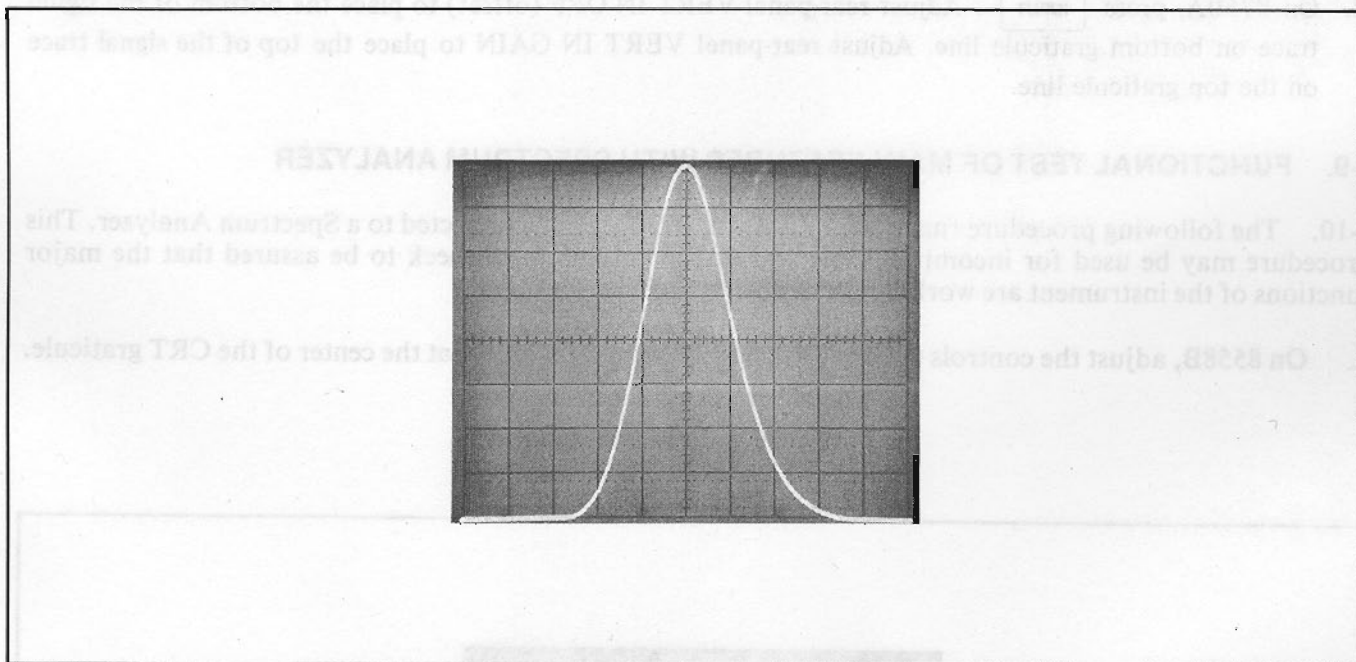

Figure 3-11. Spectrum Analyzer Calibration Signal used to Adjust 8750A
5. Readjust 8558B tuning to place the calibration signal trace in the center of the CRT. Select LINEAR mode. Expand the signal trace so it covers the width of the CRT graticule as shown in Figure 3-11.
7. On 8750A, press . On 8558B, readjust TUNING control to center the test signal trace (Figure 3-11). On 8750A press the front-panel pushbutton. Adjust the rear-panel SWP IN OFF (offset) to center the trace. Press pushbutton and note position of edges of test signal. Press and adjust rear panel SWP IN GAIN to place the edges of the test signal trace in the same relative horizontal position as noted above in bypass mode.